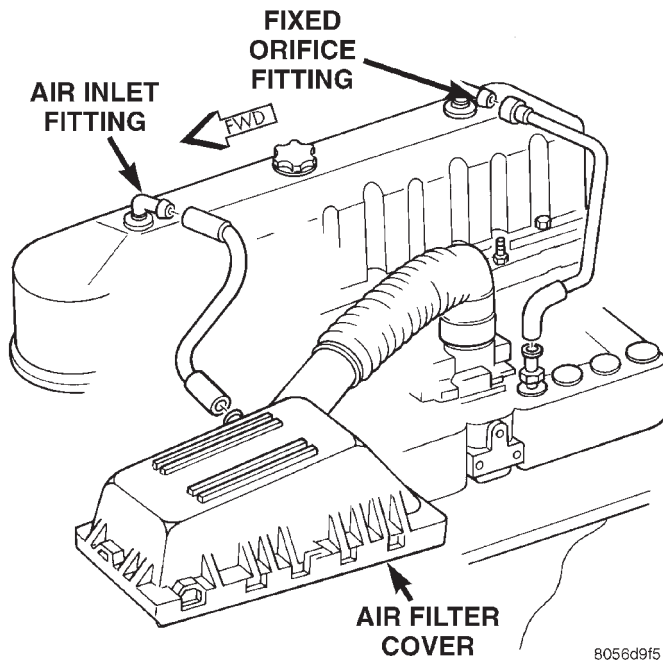

Fig. 42 Install Orifice Tool 4.0L 6-Cylinder Engine
(4) **4.0L 6-Cylinder Engine:** Disconnect CCV tube (Fig. 42) at intake manifold fitting. Attach a short piece of rubber hose to special tool 6714 (insert rubber hose to either end of tool). Install rubber hose/tool to intake manifold fitting. Let CCV tube hang disconnected at side of engine.